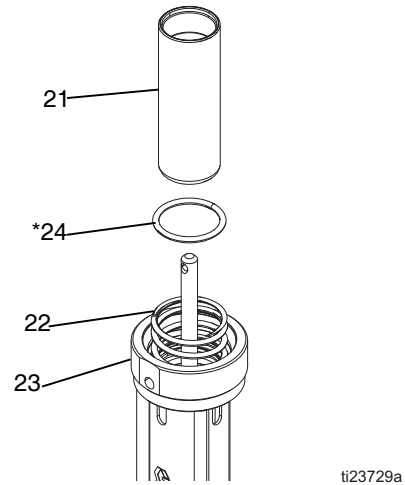

FIG. 15
- Slide air piston (21) out the top of the air motor base (23). Remove o-ring (24*) from air motor base. Inspect all parts, including the spring (22) in the air motor base, for damage. See FIG. 15.